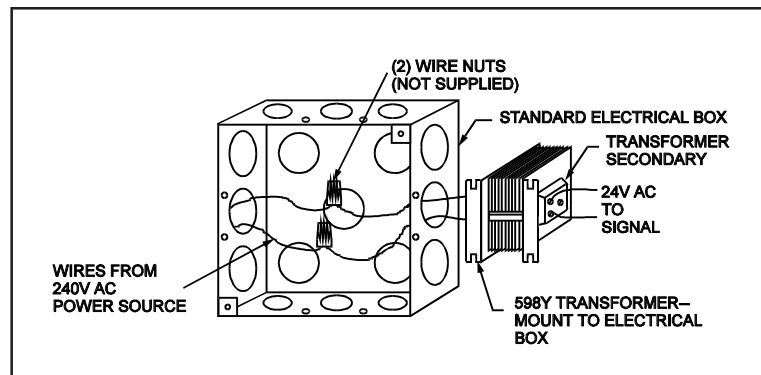
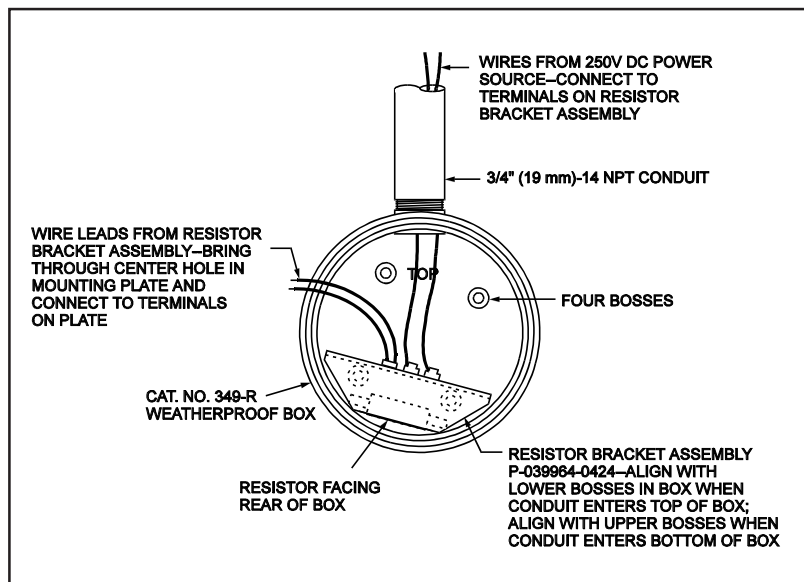

Figure 4. Wiring Installation
Figure 5. Resistor Bracket Assembly Installation
- Mount the Cat. No. 598Y transformer on an electrical box. Connect 240V AC power source wires to wire leads from primary side of transformer using wire nuts (not supplied) (Figure 4). Connect wires to be run to signal to 24V terminals on secondary side of transformer (Figure 4).
4. Place resistor bracket assembly P-039964-0424 in box with resistor facing rear of box as shown in Figure 5. Connect the 250V power source wires to the terminals on the assembly (Figure 4).
5. Bring the two wire leads from the resistor bracket assembly through the center hole in the mounting plate. Align holes in bracket with mounting screw holes in lower bosses of box when upper conduit entrance hole is used (Figure 5). When bottom conduit entrance hole is used, bracket must be aligned with screw holes in upper bosses in box.